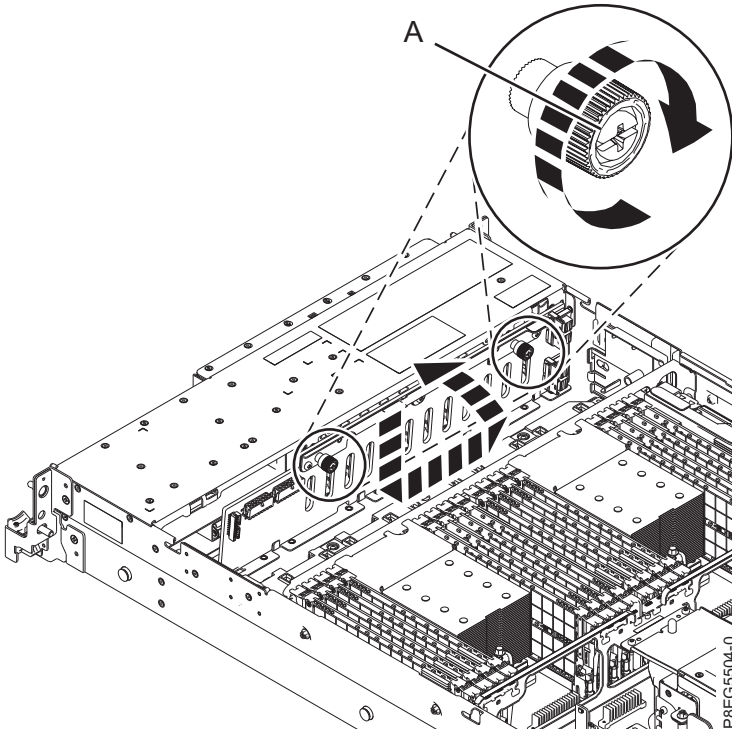

Figure 6. Replacing the disk drive backplane
3. Using the ledge at the top of the disk drive backplane and facing towards the front of the system, replace the backplane. Tilt it towards the rear and lower it down into the chassis. Align the backplane cutouts with the tabs in the chassis to insert it into the system. Shift the backplane slightly to the left to secure it in place, as is shown in Figure 6 on page 8.
4. Carefully tighten the captive thumbscrews (A) until each one is secured to the system's chassis.